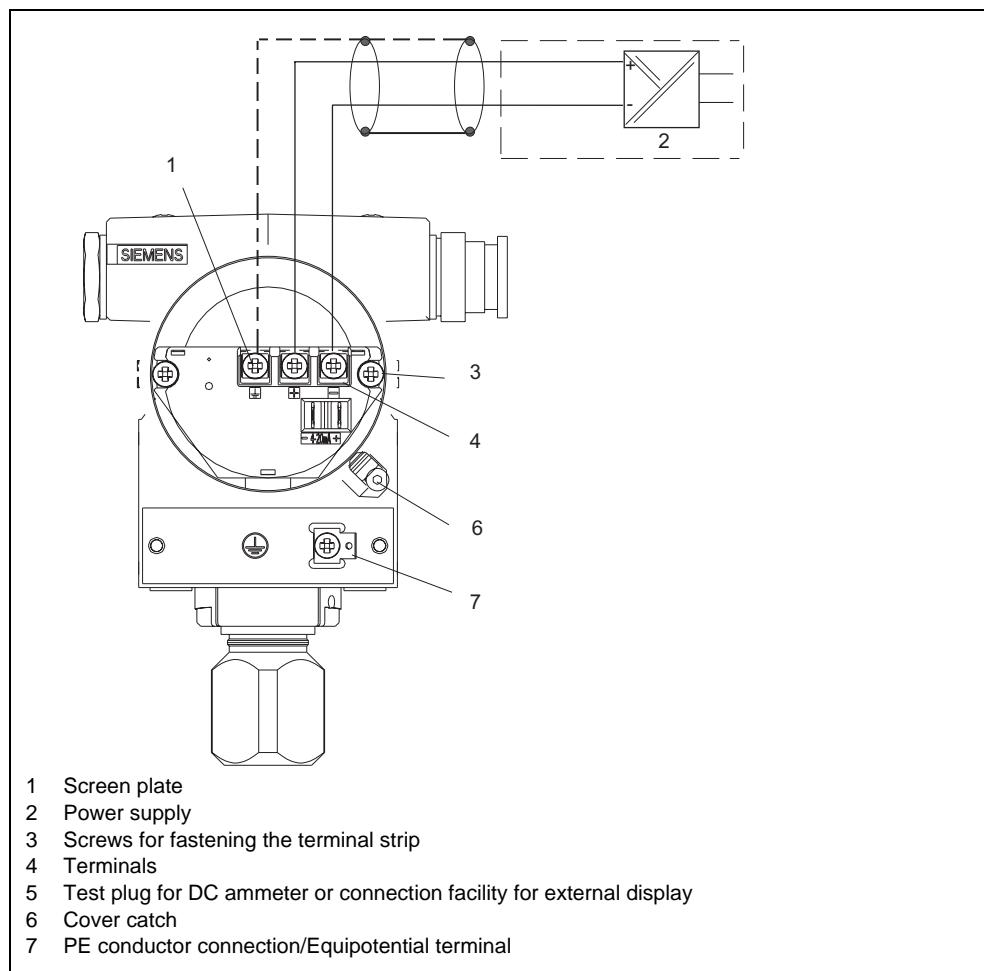

Figure 30 Electrical connection, schematic diagram
3. Connect the wires to the "+" and "-" terminals (Figure 30).